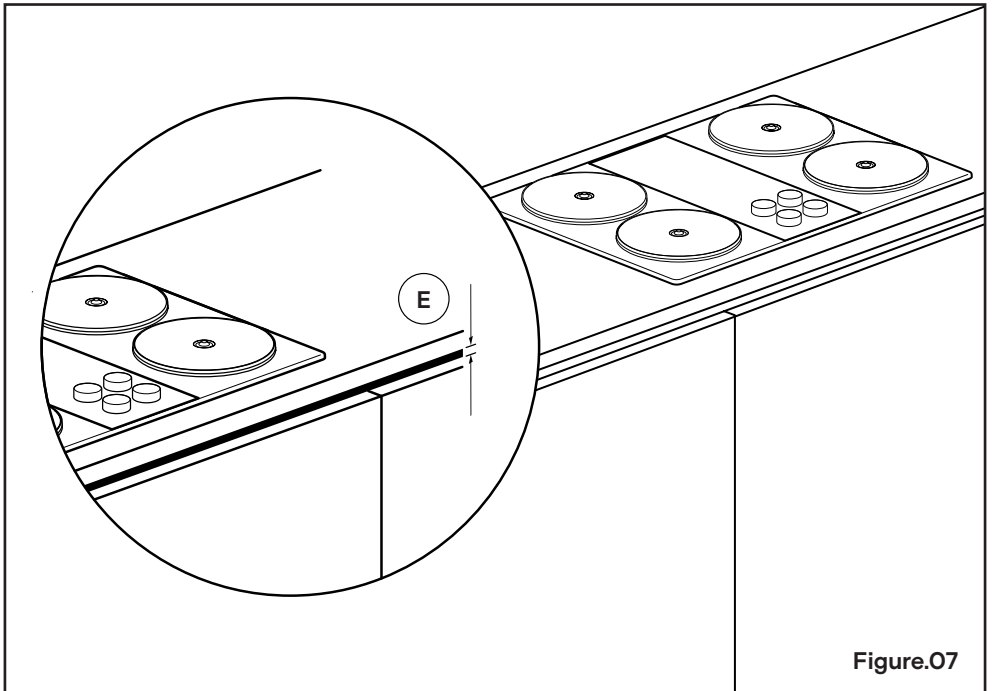

Figure.07
- › A minimum 3/16" (5 mm) clearance in the front of the cabinet, or ensure equivalent cross sectional area ventilation is provided by other means. **[Figure.07] [E]**